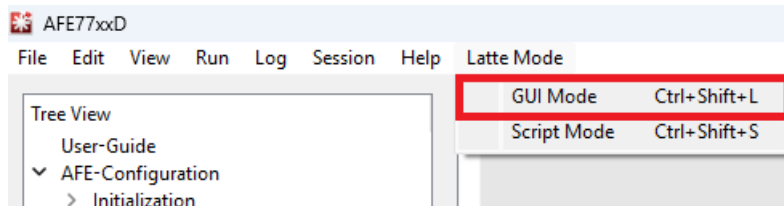

Figure 3-16. Switching to GUI Mode
- Click *Latte Mode* and navigate to *GUI Mode* as shown in Figure 3-16.